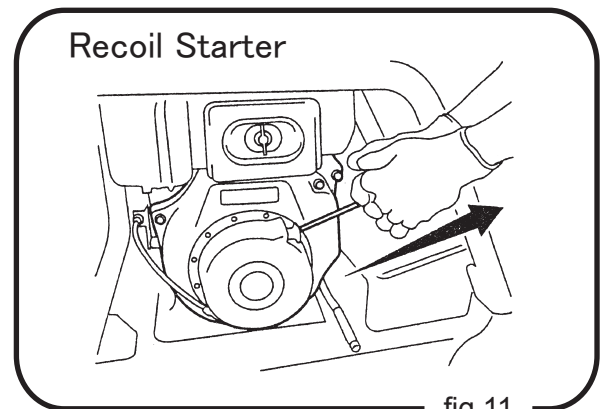

fig.11
- c. Pull the starting knob hard to start the engine. (Fig. 11)